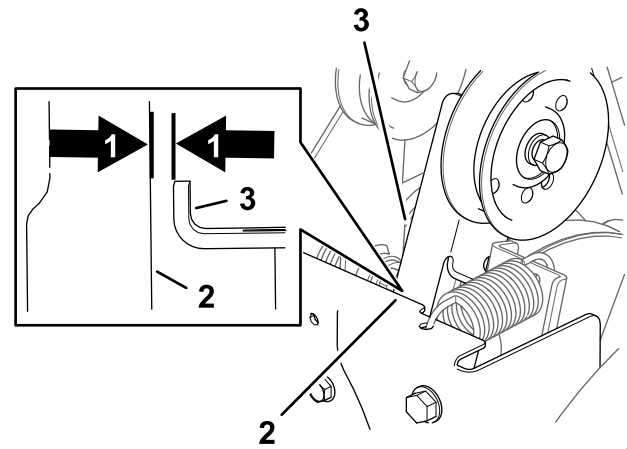

Figure 39
2. With the broom drive-lever disengaged, ensure that the gap between the broom clutch arm and the frame of the machine is 1.5 mm (1/16 inch) as shown in Figure 39.